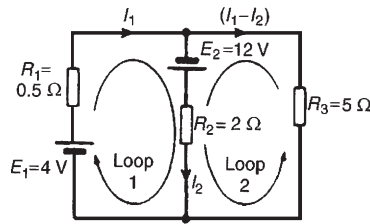

Figure 13.8
1. Currents and their directions are shown labelled in Fig. 13.8 following Kirchhoff's current law. It is usual, although not essential, to follow conventional current flow with current flowing from the positive terminal of the source
2. The network is divided into two loops as shown in Fig. 13.8. Applying Kirchhoff's voltage law gives: